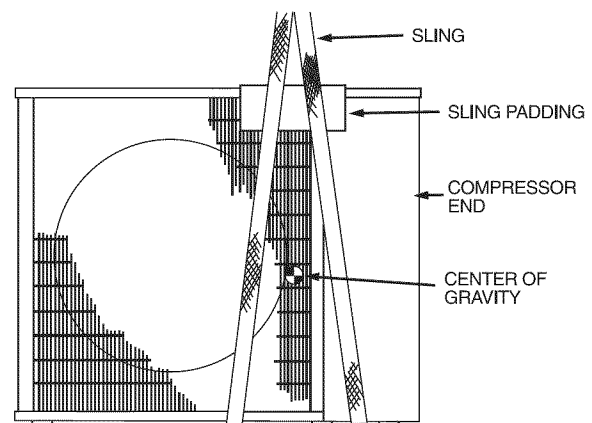

Fig. 16 - Lifting Unit with Sling
1. Rig the unit. Keep the unit upright and lift using a sling. Use cardboard or padding under the sling, and spreader bars to prevent sling damage to the unit. See Fig. 16. See Fig. 2 for center of gravity reference